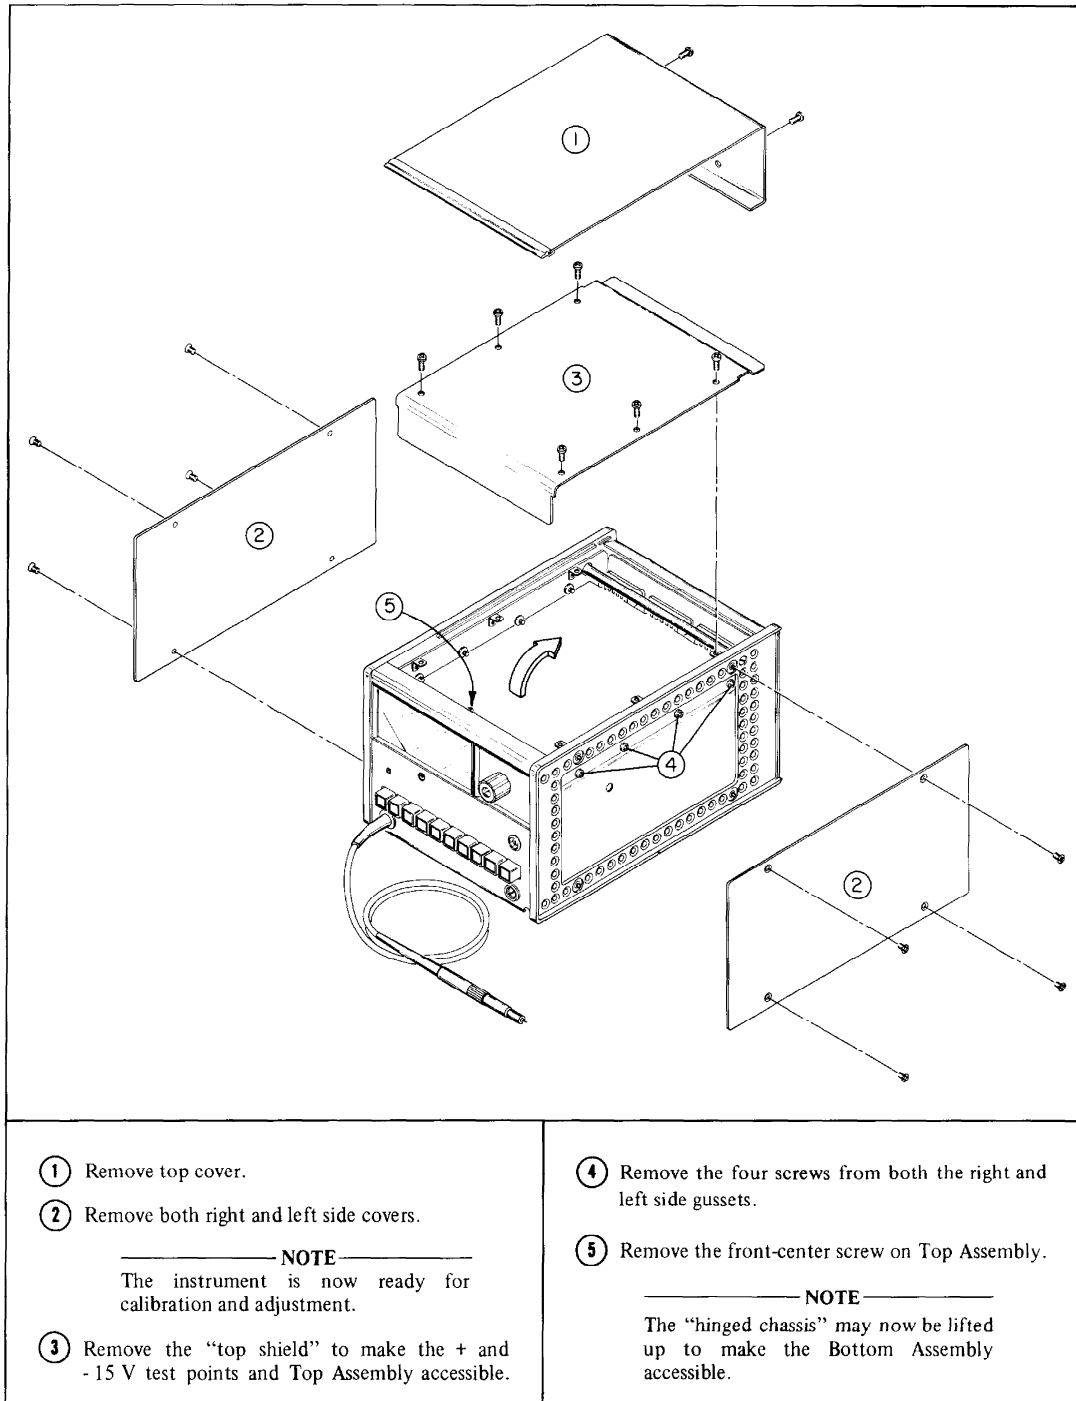

Figure 5-5. Preparation for Calibration or Repair
5-18. The 3406A is housed in a box within a box construction to eliminate RF interference. Perform the steps outlined in Figure 5-5 to prepare the instrument for adjustment and calibration.
Perform steps ③ thru ⑤ in Figure 5-5 only if it is necessary to make the components or test points on the top or bottom assemblies accessible.